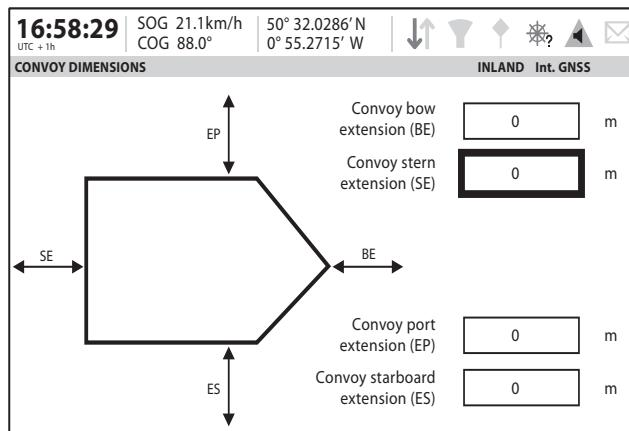

Figure 29 Convoy dimensions screen
- Convoy dimensions - enter the extension beyond the normal vessel size of any convoy attached. See Figure 29.